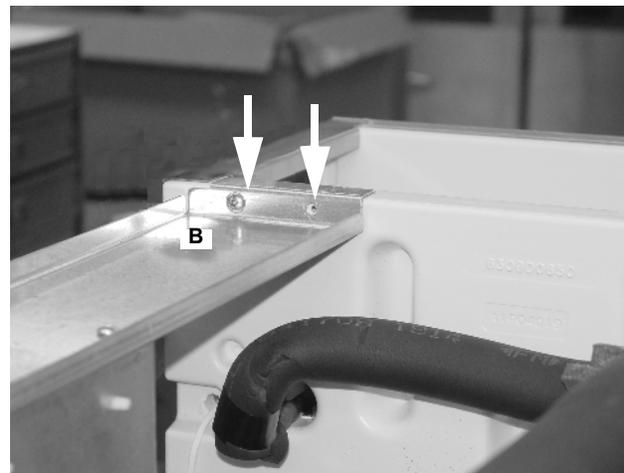

Figure 17.
15. Remove the 2 screws connecting the top support brace (B) to the evaporator bulkhead (Figure 17).